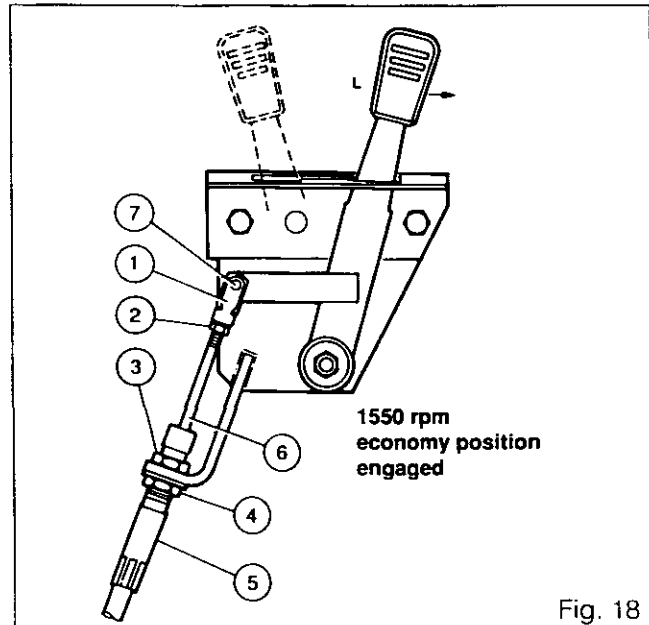

Fig. 18
128. Screw the clevis (1) until it reaches the end of the threaded part of the cable (6) (Fig. 18).